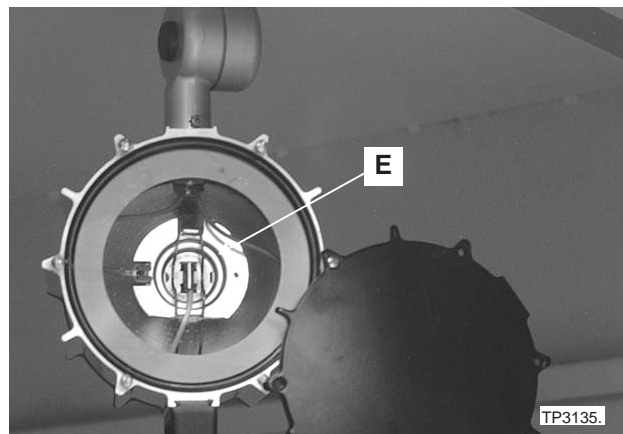

Figure 5.5 - Work Light
4. Pinch together the wire retaining clip and unfasten it from the bracket; swing it back. Lift halogen bulb "E", Figure 5.5, from the socket. Disconnect the bulb wire.